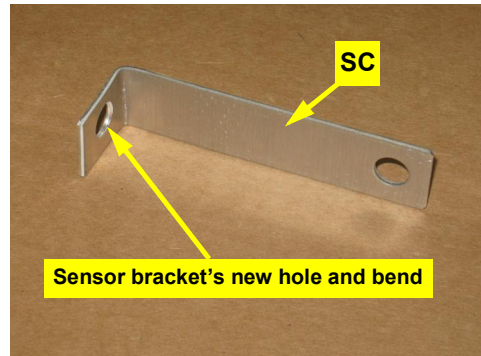

Figure 1b: Drilled and bent sensor bracket
- b. Drill a 3/8" hole in sensor bracket SC at the opposite end to the pre-drilled sensor hole. Put a 90° bend in the bracket next to the new hole (Figure 1b).